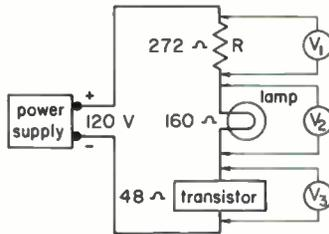

Fig. 40
8. In Fig. 40, voltmeter V_1 reads _____ volts; voltmeter V_2 reads _____ volts; and voltmeter V_3 reads _____ volts.
9. Add the voltmeter readings in Fig. 40. Is the sum equal to the supply voltage?
10. The lamp in Fig. 40 will burn at proper brilliancy if it is manufactured to be used on _____ volts.